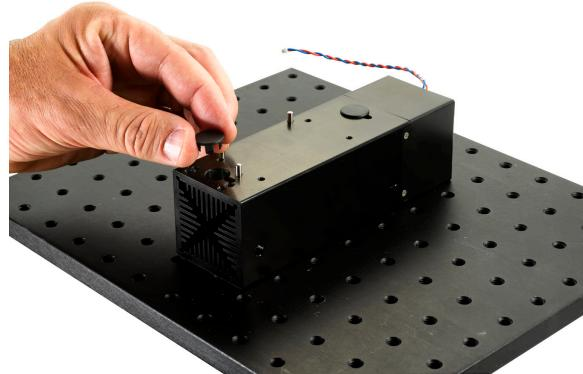

Figure 3-1. Remove the Heatsink Plugs
1. Remove the two heatsink plugs to access the mounting holes, as shown in Figure 3-1. **The plate is not included.**